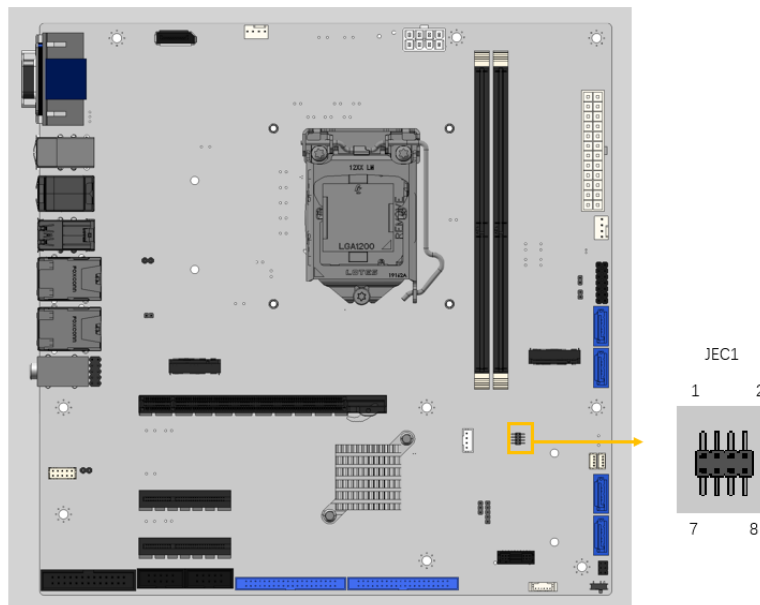

Figure 3-11: EC UART Debug Connector Location
- CN Location:** See Figure 3-11